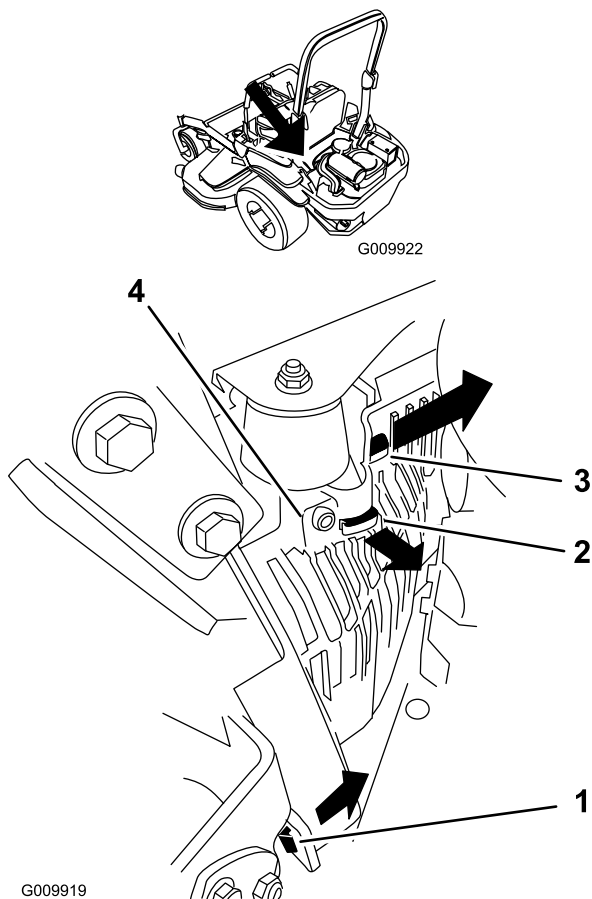

Figure 55
3. Remove the left-hand hydraulic unit shroud in the order listed with Figure 55.
5. Install the left hand hydraulic unit shroud (Figure 55).